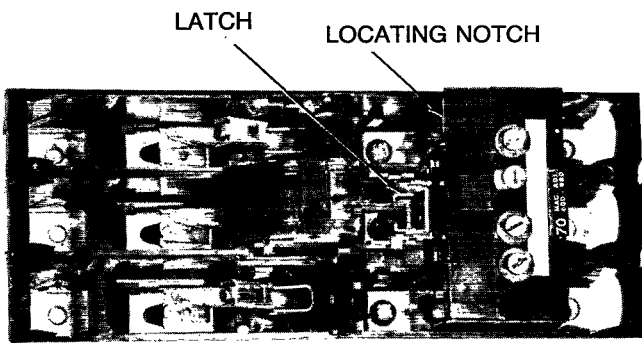

Figure 3
3. Note position of locating notch in trip unit and latch. (Fig. 3).